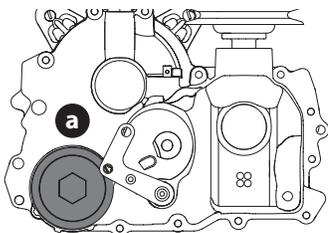
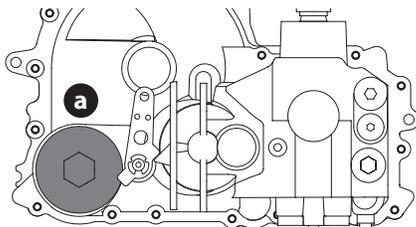

Figure 43
Figure 44
2. Place a suitable container under the oil filter cover (a) on the transmission. Remove the oil filter cover from the transmission to drain the oil (Figure 43 for 700 series, Figure 44 for 900 series). Remove and discard the O-ring.
4. Replace new filter and fit new O-ring onto filter cover (a) (Figure 43 for 700 series, Figure 44 for 900 series).